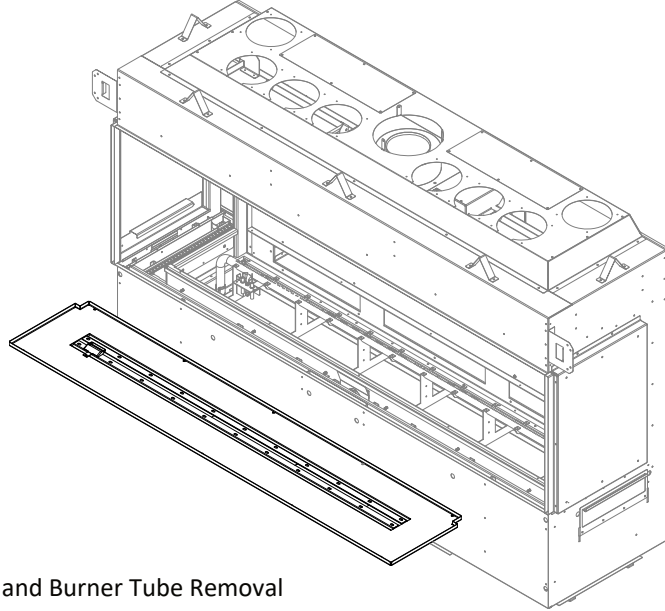

Figure 7.20 - Burner Media Tray and Burner Tube Removal
5. Remove all the sheet metal screws around the perimeter of the media tray and all sheet metal screws along the center of the burner. Remove the firebox media tray and burner tube. Figure 7.20.